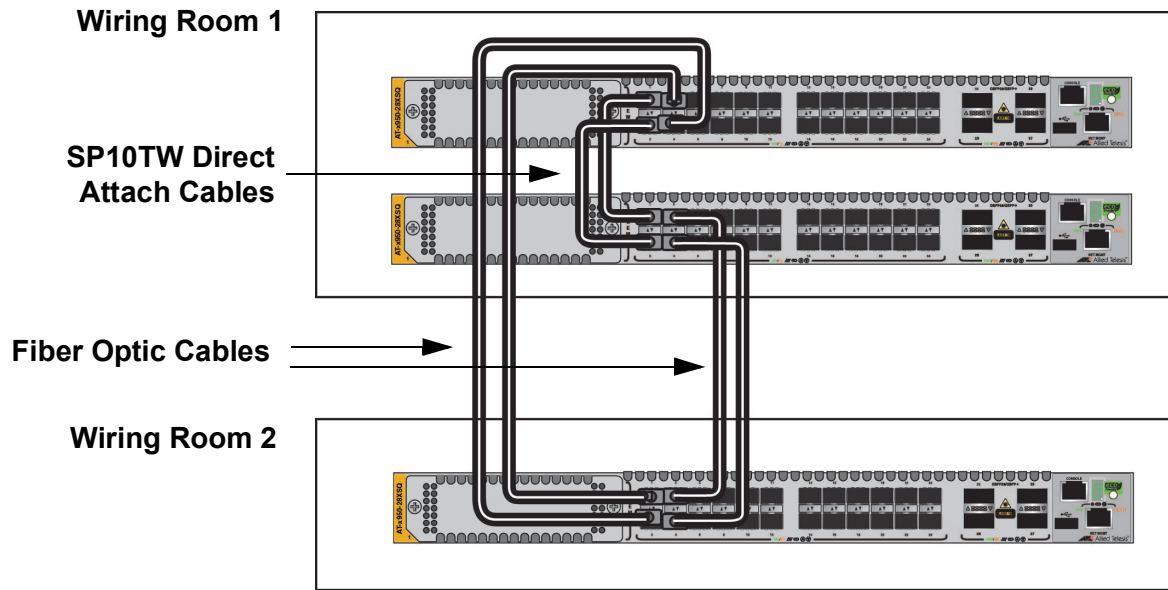

Figure 37. Unsupported Trunk with Mixed Cables
- ❑ The cables in a trunk must be all the same type: They can be all fiber optic cables, direct attach cables, or twisted pair cables. Trunks cannot contain different types of cables. The trunk in Figure 37 on page 85 is unsupported because it has both fiber optic and direct attach cables.